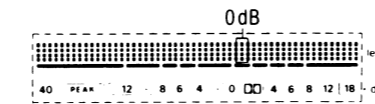

Fig. 19
9. At this time, check that 0dB indicator is dimmed (intermediate brightness between full brightness and light-out: (See fig. 19).